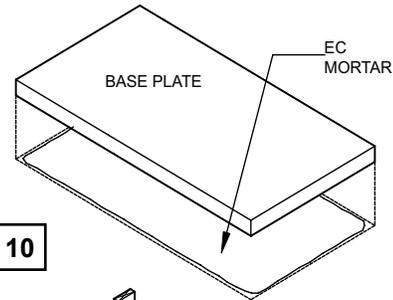

FIGURE 10
Step 1: Set the base plate in a full bed of Earthcore Mortar flat on a proper concrete support foundation. (Figure 10). Do not set the base plate so that it is in span. Level the base plate by floating it in a bed of Earthcore Mortar to full bearing against the underlying noncombustible support surface.